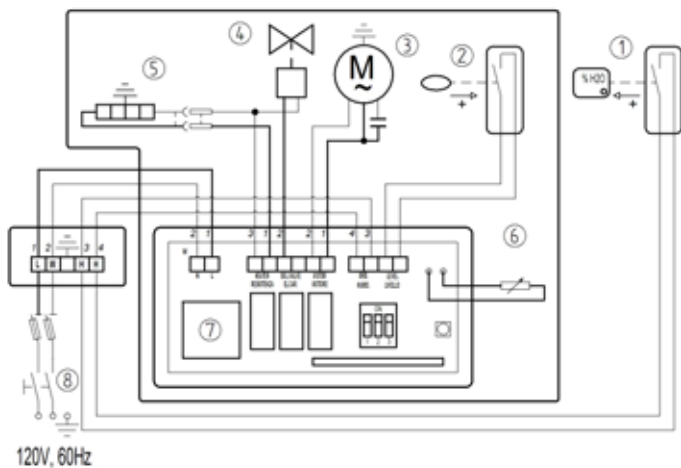

Fig. 12 - Wiring diagram
***Installation must provide a separator switch for the appliance on the electric power supply, as shown in Fig. 12. Installation of a 2.5 amp slow blow fuse is necessary for the start-up of the motor.***